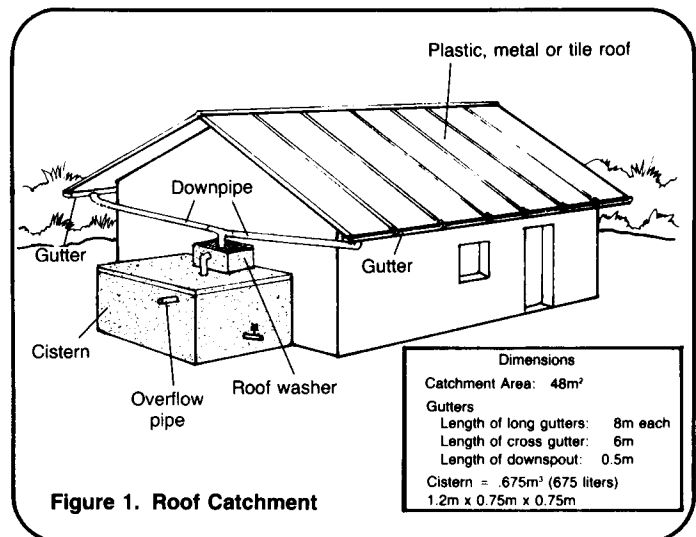

Figure 1. Roof Catchment
2. A plan of the roof catchment system with all dimensions as shown in Figure 1.
The effective roof area for collecting water is not the roof area itself but the ground area covered by the roof. In Figure 1, the effective water collecting area is 48m^2 ($8\text{m} \times 6\text{m} = 48\text{m}^2$). The roof must slope as shown so that the water will flow into the gutter system installed to move the water to storage.
Gutters must be installed on both sloping sides of the roof to collect all the run-off and channel it into the cistern. The gutters must be as long as the edge of the roof. Figure 1 shows a typical gutter design. There must also be a downpipe on a third side of the house so that water from both catchment surfaces is channeled to a single cistern. The design of gutters is quite simple and local materials can be used for them.